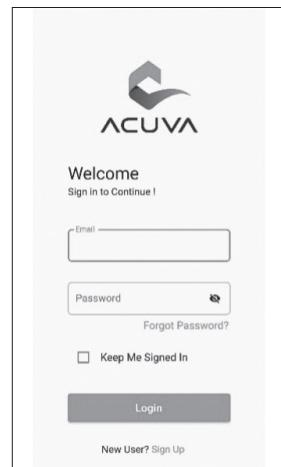

Figure 11: Sign in to the App
- Upon installing the application (from the app store), you need to create an account and sign in to the app, as illustrated in **FIGURE 11**.